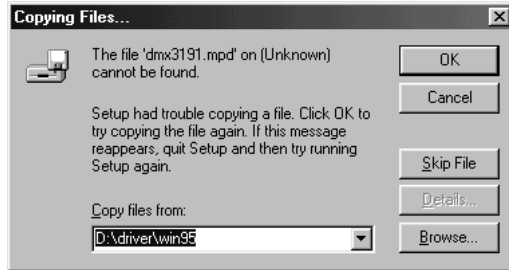

Figure 12: Installing a driver
- Click on 'OK' (Figure 12) to continue with the installation. The files will now be copied. Figure 13 will then pop up.